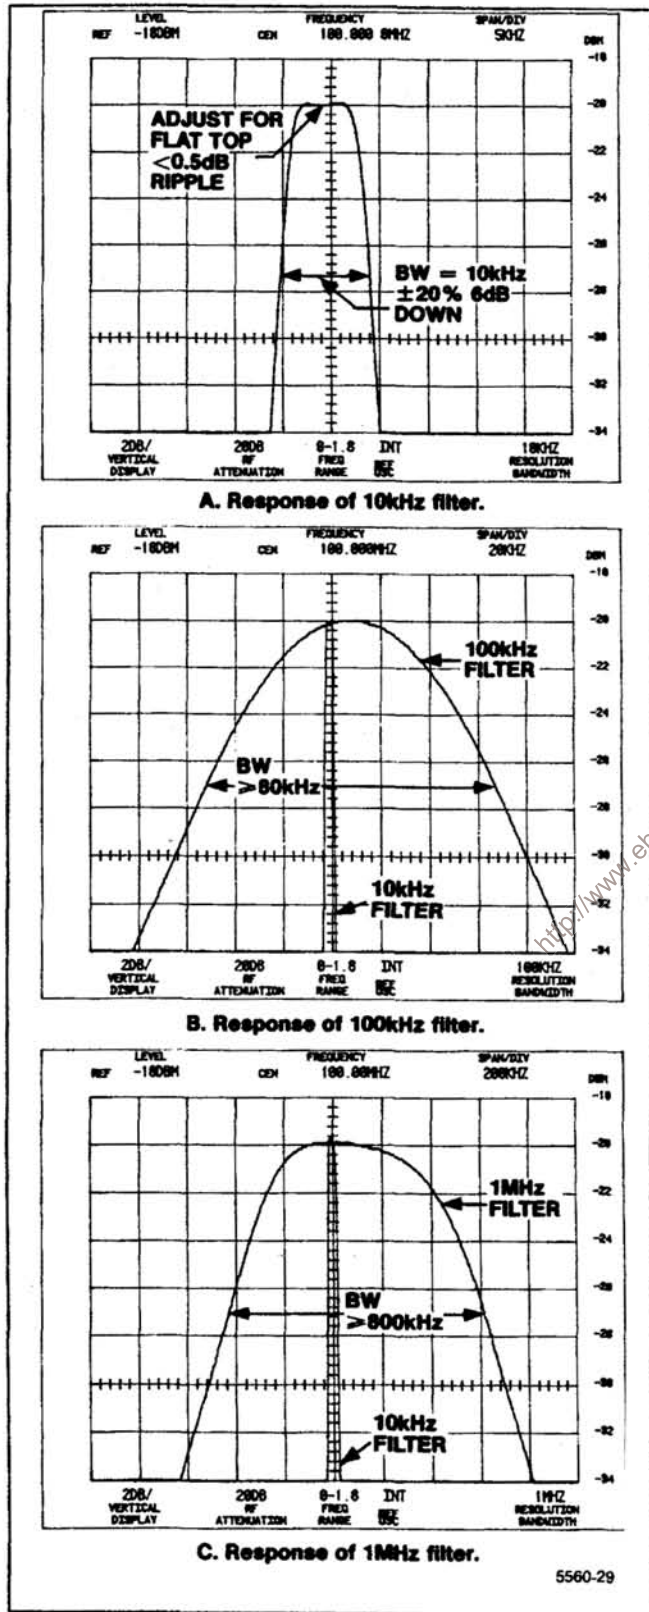

Figure 5-19. 10 kHz, 100 kHz, and 1 MHz filter response.
- s. Check the waveshape, bandwidth, and centering of all filters. If necessary, make only fine or minor adjustments. Figure 5-19 shows typical response shapes.
- (1) Set the **FREQ SPAN/DIV** to 500 kHz, **RESOLUTION BANDWIDTH** to 100 kHz, and **REF LEVEL** to -20 dBm.
- (2) Adjust all filters to the 100 kHz level as per the following Table 5-3. Change **FREQ SPAN/DIV** as necessary to maintain a suitable display.